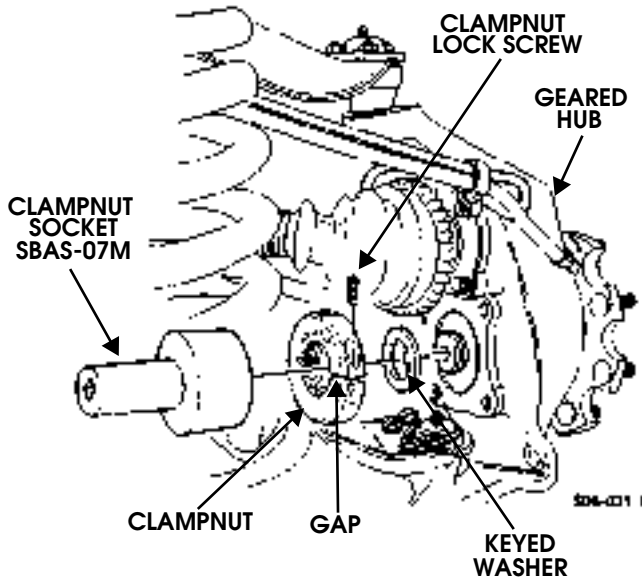

Figure 9-42: Clampnut Installation
10. Using clampnut socket SBAS-07M, tighten clampnut to 40 lb-ft (54 N•m). Rotate spindle five revolutions both clockwise and counterclockwise to seat bearings (Figure 9-42).